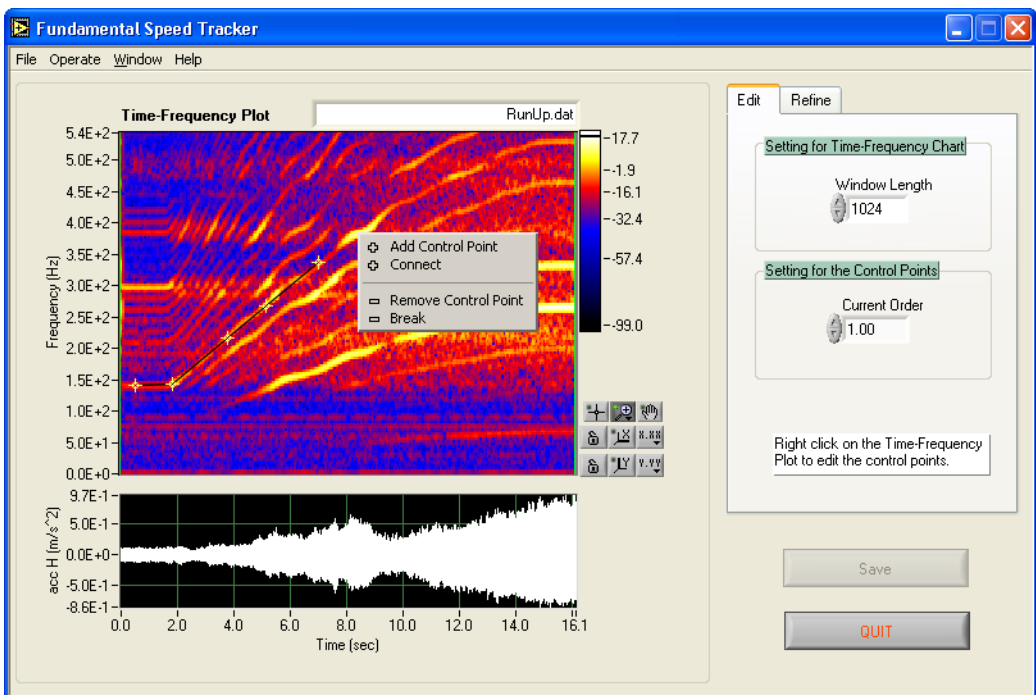

Figure 4-2. Adding Control Points on the Most Significant Order
3. Select the most significant order and place a set of control points on the order trace by right-clicking on the trace and selecting **Add Control Point** as shown in Figure 4-2.